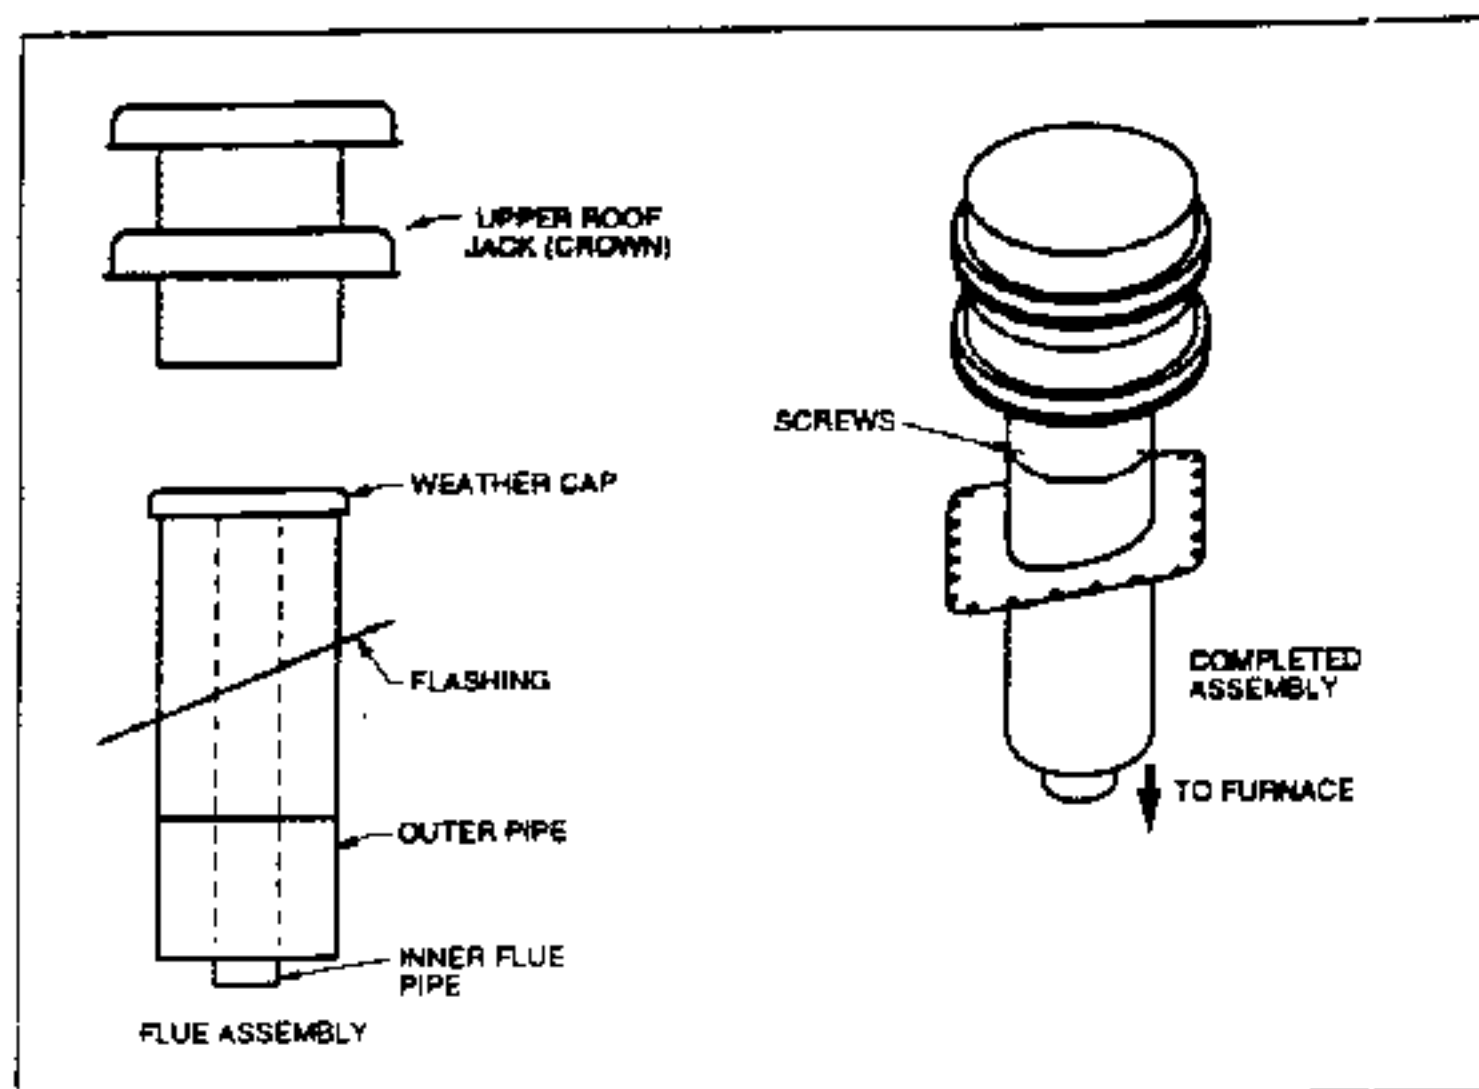

Figure 25.
- Transit-mode weather cap to be removed and upper Roof Jack crown installed (See Figure 25).
- Place upper Roof Jack (crown) on to the flue pipe assembly (See Figure 25). Be sure inside flue pipe attaches over inner flue pipe. Be sure outer Roof Jack pipe fits over outer pipe. Secure in place using three (3), #10, 1/2" sheet metal screws supplied.